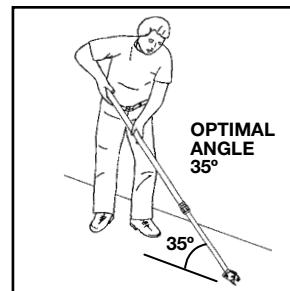

Figure 3
STEP 3: Pull out extension tube to desired length. The optimal cutting angle with the floor is roughly 35 degrees (see Figure 3).
To cut a strip of glue-down carpet, simply insert the steel pointer through carpet, and push forward on the handle. The steel pointer guides the carpet to the blade where it is cut (see Figures 3 & 4).